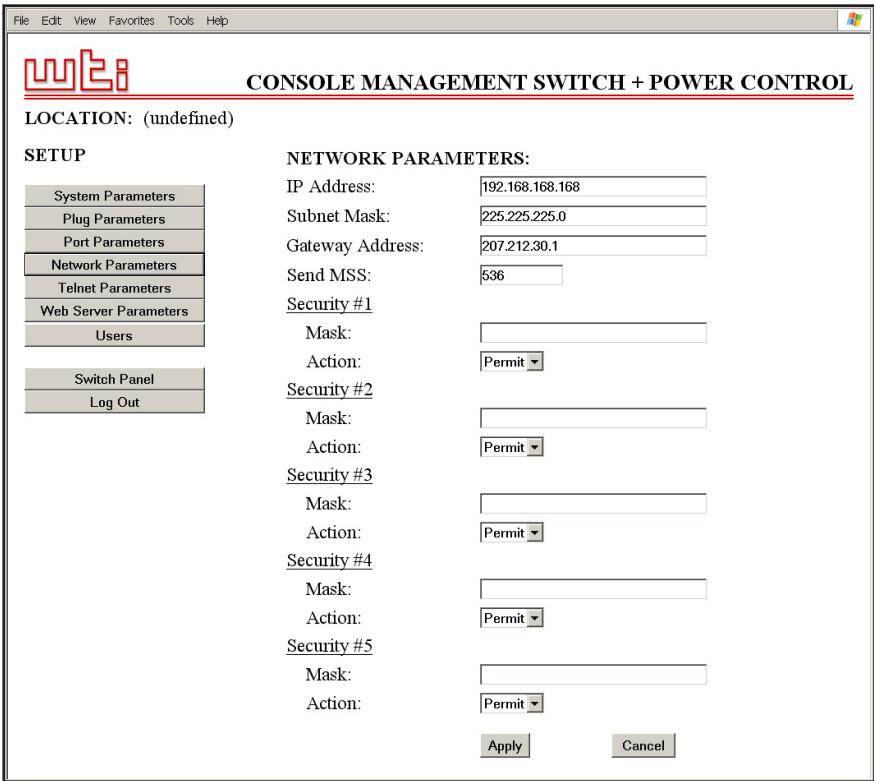

Figure 5.9: Network Parameters Menu - Web Browser Interface
- **Web Browser Interface:** Click the "Setup" button to access the Setup Menus, and then click the "Network Parameters" button. The Network Parameters Menu will be displayed as shown in Figure 5.9.
- a) **Web Browser Interface:** The IP Security feature is configured using the fields at the bottom of the Network Parameters Menu as shown in Figure 5.9. To access the Network Parameters Menu, click the "SetUp" button at the bottom of the Status Screen, and then click the "Network Parameters" button on the left hand side of the Setup Menu.